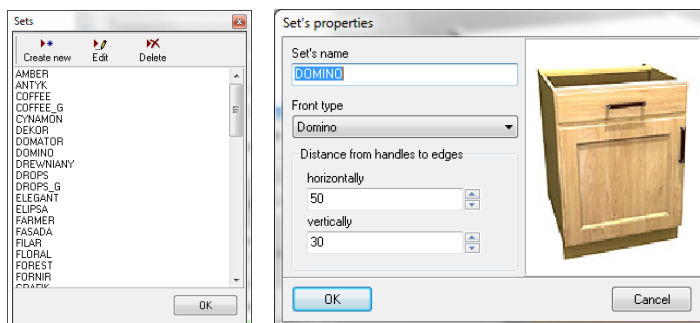

Fig. 174 – edition of a set in the User Cabinet Database
- **Set edition** - causes the **Sets** dialog box to be displayed, in which a new set can be added to the User Database (**Create new** button), parameters of an existing set can be modified (**Edit** button) or remove an existing set (**Delete** button) (Fig. 174).